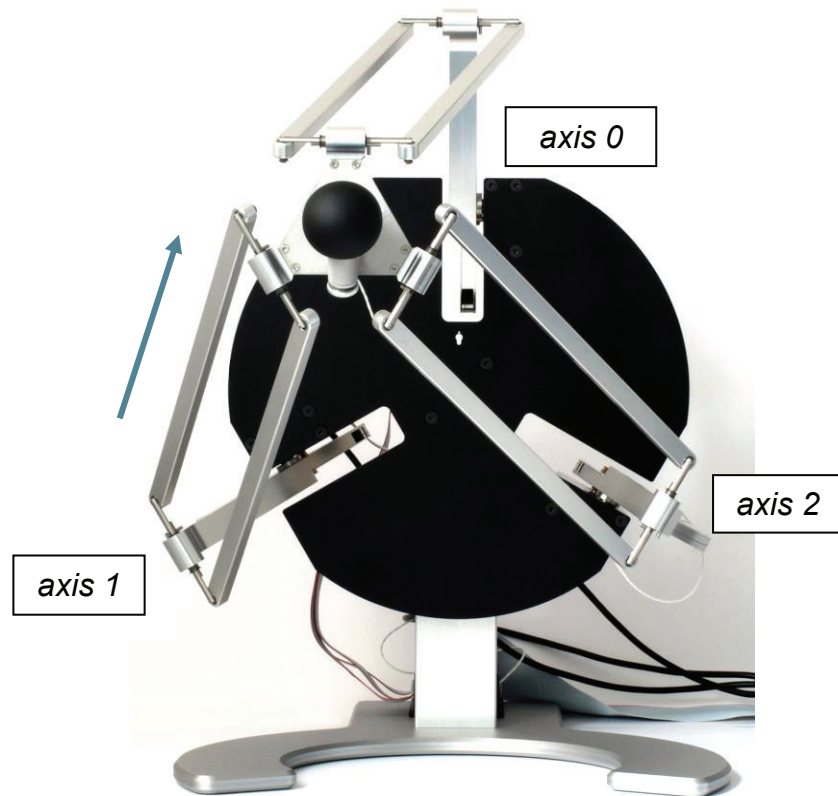

figure 10 – moving the end-effector toward the calibration position
2. by holding the force button on the control unit for 2 seconds while maintaining the end-effector at the calibration position (axis 0 retracted, axis 1 and 2 extended, see figure 10). **Make sure all axes are resting on their respective mechanical end-stop** prior to holding the force button down, or the calibration might be incorrect.